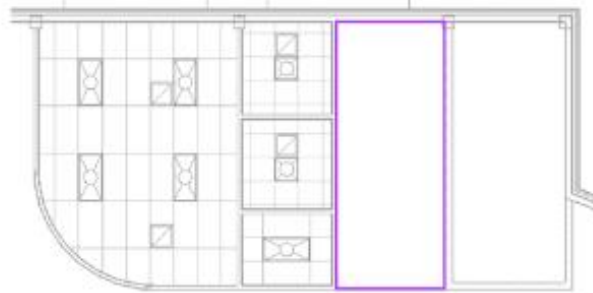

Figure 10–17
- In the *Modify | Place Ceiling* tab>Ceiling panel, click  (Sketch Ceiling) and draw sketch lines, as shown in Figure 10–17 in the hallway.